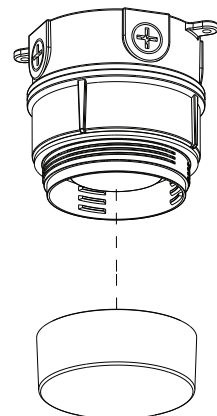

Fig. 5
1. Once the fixture is wired and secured according to the instructions listed above, thread the short globe onto the heatsink. This applies to both ceiling and wall mounted fixtures (see Fig. 5).